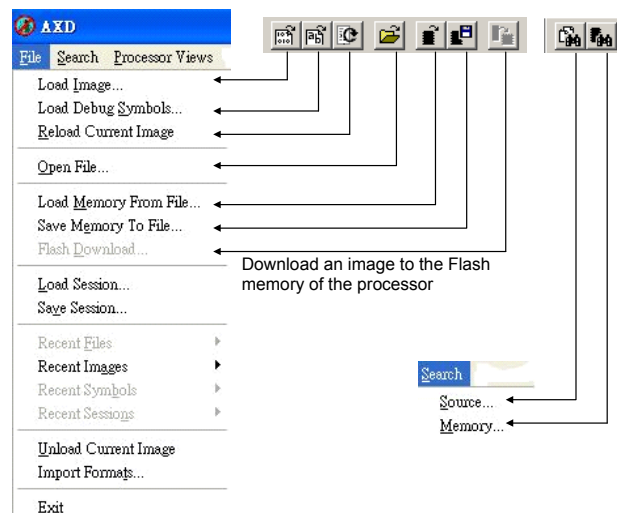

Figure 1. File and Search Menu, and their corresponding Toolbar.
7. To repeat the execution of the program, select **Reload Current Image** from the **File menu** or toolbar shown in Figure 1, then repeat Steps 5 and 6.